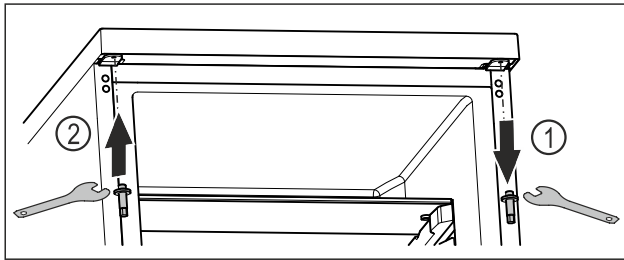

Fig. 18
- Unscrew the upper bolt with an Allen key. Fig. 18 (1)
- Tighten the bolt on the opposite side with an Allen key. Fig. 18 (2)